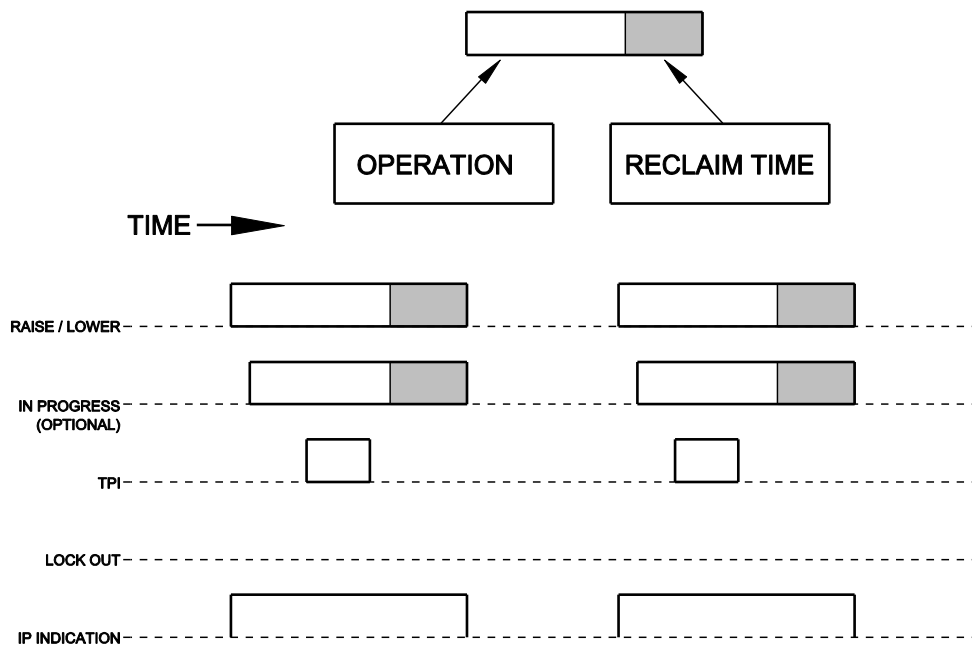
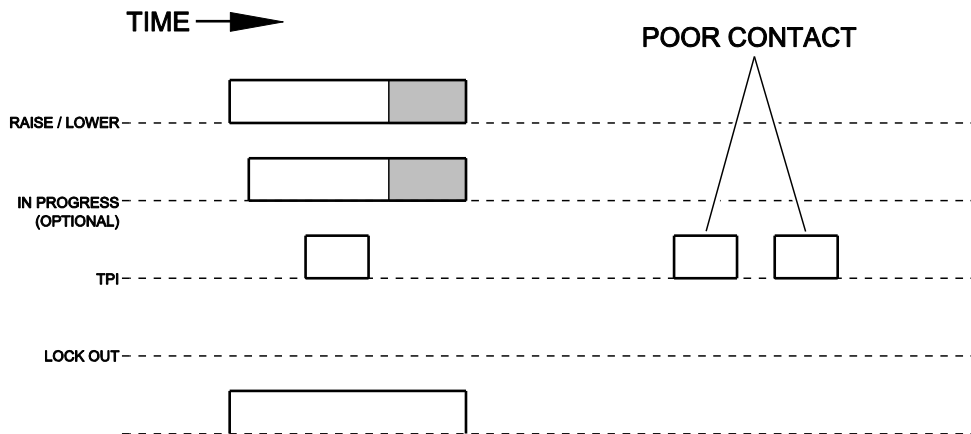

Figure 4 – Normal operation
Figure 6 – Poor contacts – no lockouts
For a tap change to be correct, the following sequence must take place, as shown for a normal operation, Figure 4.
On most schemes an 'In Progress' (IP) auxiliary switch is also closed and used to indicate the operation of the mechanism, the operation of this contact is also shown. To confirm correct operation of the runaway logic a definite break between successive tap change operations must be detected as indicated by the reclaim time in Figure 4 to Figure 6.
The runaway prevention unit also protects against a runaway situation during push button operation. Unwanted operations in manual control are prevented by avoiding further operations until the "in Progress" LED is extinguished. Where apparent changes in tap position are seen, i.e. a faulty/high resistance sender unit contact, Figure 6, shows how a lockout will not be initiated. In this case no control signals are detected and, as the mechanism is in a quiescent state a runaway is unlikely to occur. The LCD display will mark the visible indication of tap position as suspect in this case until a further control signal initiates a tap change operation.